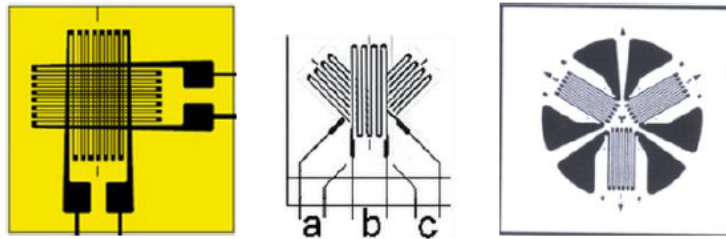

Fig. 7.116: Sketch of different rosette types
Fig. 7.116 shows sketches of different rosette types: left: 90° (T), middle: 45°, right: 120° rosette.